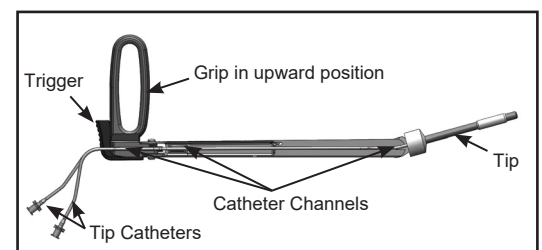

Figure 1
2. Ensure the Tip catheters are secure in the catheter channels of the Handle (see Figure 1).
The RUMI II Handle is always intended to be used with the grip in the upward position (see Figure 1).